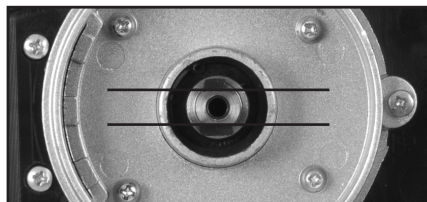

Fig. 12
Note: The two (2) flats machined on the power spindle that engage in the Backing Pad to provide positive drive and location. **(Fig. 12)**